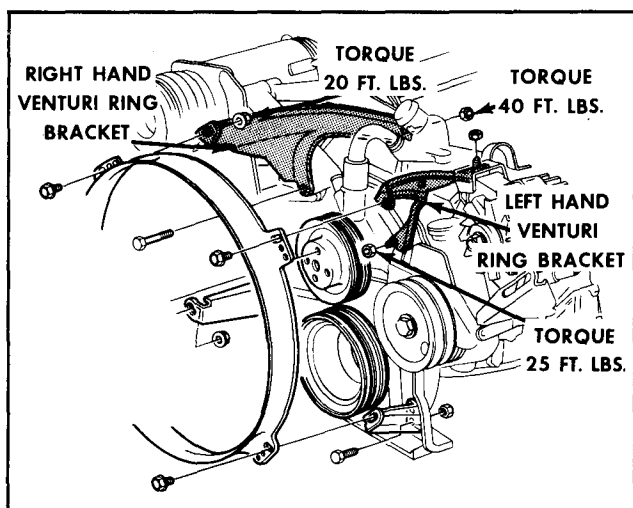

Figure 10—Upper Venturi Ring Brackets
4. Remove both upper venturi ring braces on vehicles with air conditioning as shown on Figure 10. Vehicles without air conditioning require removal of L.H. upper venturi ring only.
15. Install venturi ring brace(s). See Figure 10.